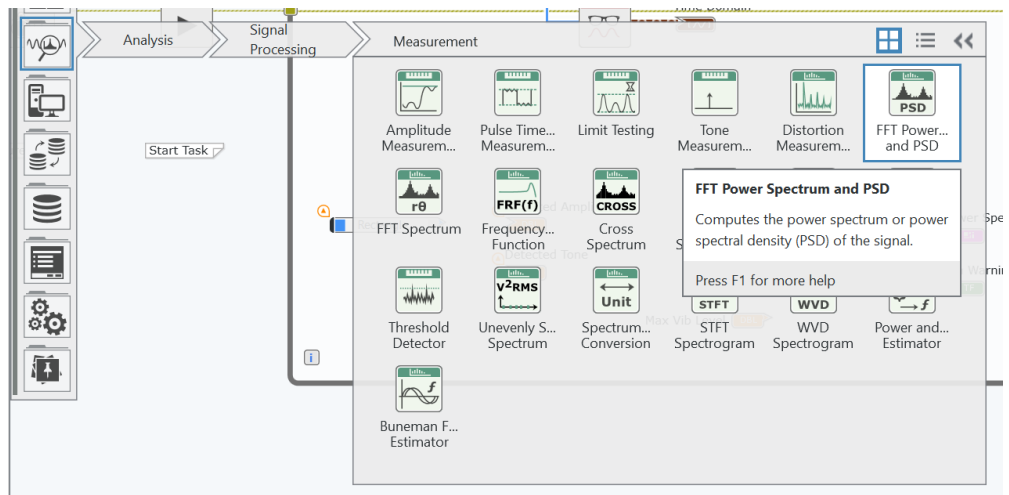

Figure 7-32 LabVIEW contains many built-in analysis functions and many others are supported through tool kits and add-ons.
2. From the palette, select **Analysis » Signal Processing » FFT Power Spectrum and PSD** as seen in Figure 7-32.